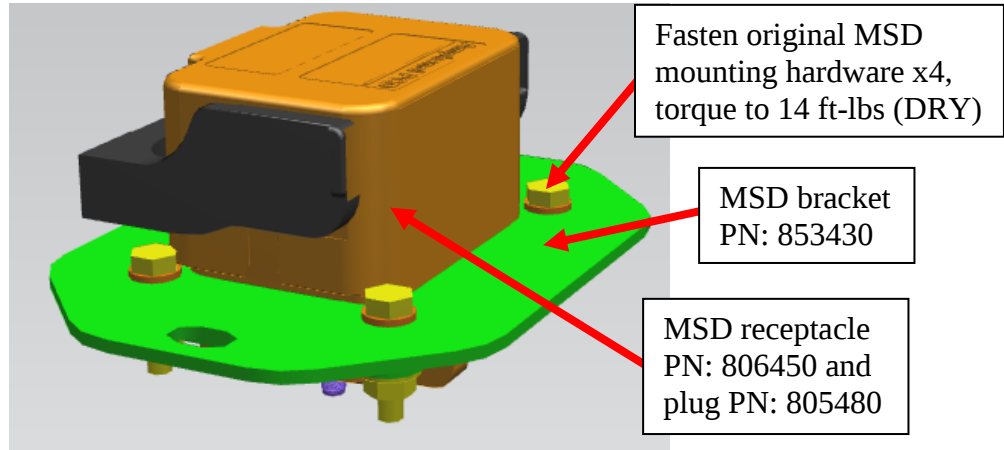

Figure 23: Rooftop ESS MSD bench assembly
3.6 Bench assemble new rooftop ESS MSD x5. See figure 23.